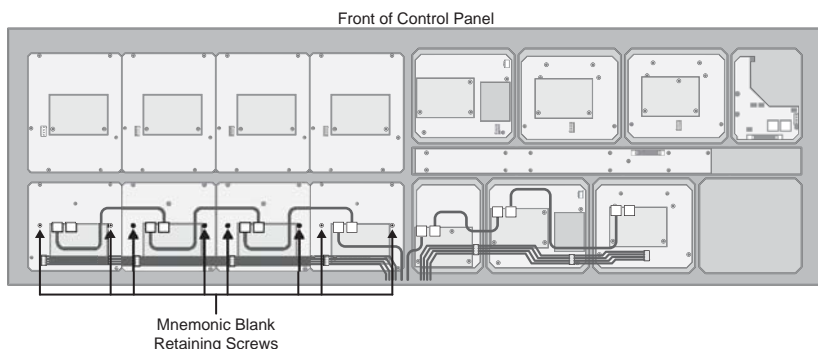

Figure 11 *Mnemonic Blank Retaining Screws — Vision 2X*
2. Install the **Mnemonic Blank Retaining Screws**, two per **Crosspoint Module**, to secure the **Mnemonic Blank Plate** into position (**Figure 11**).